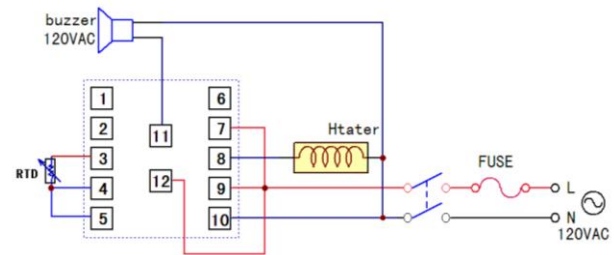

Figure 13: ITC-100RH Wiring diagram
1. Connect sensor: the sensor in figure 13 and 14 are both three lines RTD sensors. Their connection method are the same. Red wire is for COM3, other two blue wires are for COM4 and COM5 (two blue wires can exchange COM port with each other).
2. Connect alarm: ITC-100RH and ITC-100VH's alarm control output are the same. COM12 is the power input port for alarm, which should connect with phase line (L). COM11 is alarm control output port, which should connect with alarm. The other line of the alarm should connect with the null line.
3. Connect heating tube: ITC-100RH controls heating tube by its internal relay. COM7 of the instrument connect with the power input port, which should connect with phase line (L). COM8 is the control output port, which should connect directly with the heating tube. The other wire of the heating tube should connect with null line (N); TC-100VH output DC12V voltage as control signal, driving SSR to control heating tube. COM8 of the instrument output positive voltage, which should connect with SSR's positive pole; COM6 of the instrument output negative voltage, which should connect with SSR's negative pole. The polarity should not be inversely connected.